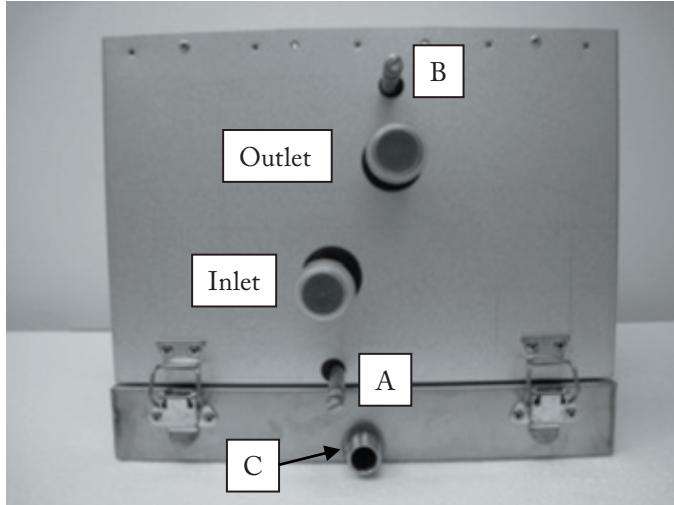

Figure 1
3. The water inlet must be connected to the lower pipe (marked Inlet in Figure 1) and the outlet to the upper pipe (marked Outlet in Figure 1). The inlet is provided with a drain connection (A in Figure 1) and the outlet with an air purging connection (B in Figure 1).
5. The cooling coil can be drained of water through the drain connection (marked A in Figure 1).